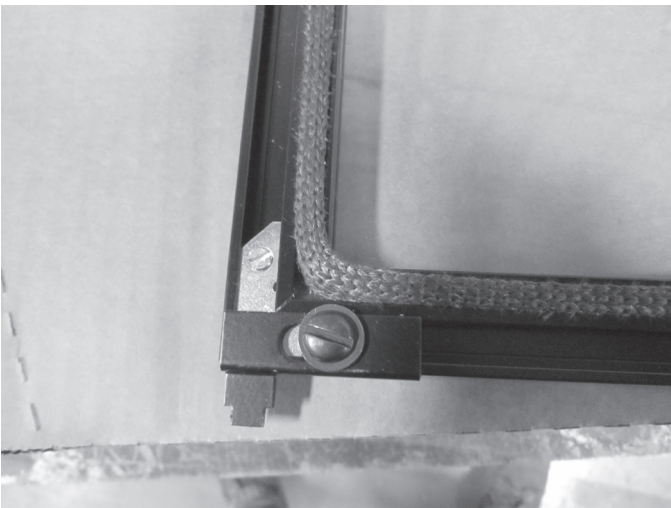

Figure 10
- Using a metal washer and slotted hinge screw, attach bottom pivot bracket onto the bottom of each door where the set screw was removed. See Figure 10.